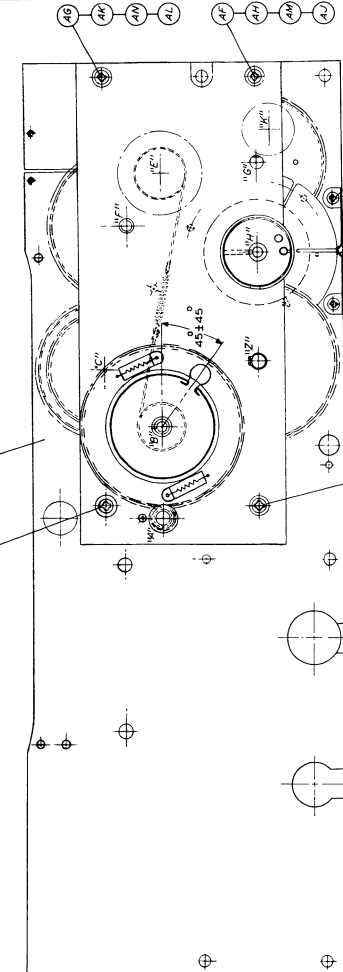

Figure 5-4. 51J-4 Dial and Bandswitch Gear Box
(1) Turn shaft G (BAND CHANGE) clockwise to the stop below band 1. Turn shaft A counterclockwise to the stop.
(2) Scribe a mark across the 85-tooth spider gear that carries the planetary gears, and across the 90-tooth stop-pin gear, using the top of the front gear panel as a guide.
(3) Scribe a radial mark, precisely under the Geneva wheel detent, on the 144-tooth gear that has two stop pins attached.
(4) Using the circumference of the Geneva wheel as a guide, scribe a mark on the 85-tooth gear that drives the Geneva wheel.
(5) Scribe a mark through the edge of the small dial cord pulley and the front gear panel.
(6) Remove pin from hub of large dial cord pulley.
(7) Remove large dial cord pulley and gear.
(8) Remove small dial cord pulley.
(9) Remove retaining ring from shaft I (shown as shaft Z in the front view of gear plate in figure 5-4).
(10) Using a pair of right angle TRUARC pliers or two bent (right angle) scribes, remove retaining ring from shaft F.
(11) Measure and record the length of loading spring using a pair of dividers.
(12) Remove four mounting screws from front gear panel.
(13) Remove front gear panel, being very careful not to let shafts ride up with plate. While removing this panel, do not allow gears to unmesh or rotate.
(14) Keep shim washers with respective gears or shafts.
(15) Before moving or disengaging any gears other than the 90-tooth gear on shaft F, scribe a line through detent spring, 48-tooth detent gear, and rear gear panel, and another line through the 52-tooth gear on shaft E and rear gear panel.
(16) Mark all gears being removed in such a manner that they may be identified later for reassembly.
(17) If the overtravel coupler is removed, note that the disk and gear are detented. Do not lose detent ball.
(18) Make all necessary repairs. If any parts that have been scribed are to be replaced, be sure to scribe the new parts in exactly the same manner before placing them in the equipment. If the loading cord is to be replaced, form a small loop at one end of each of the two pieces to provide anchors for the spring. Push free ends of the cords through the proper pulley-holes. Knot the free ends after allowing for five inch lengths of cord between the loops and knots. Coat the knots with Duco cement.
(1) Shaft G should now be against the clockwise stop, and should detent when turned counterclockwise approximately 45°. The ball on shaft C will now detent shaft G every 180°.
(2) When shaft G is turned counterclockwise 7-1/2 revolutions, or 15 detent positions from the first detent position, the pin in the 144-tooth gear on shaft H (figure 5-4), and the radial pin on the overtravel disk rotate clockwise until the radial pin just touches or is about to touch the pin in the rear gear panel. Further rotation of shaft G causes the pin in the gear to leave the radial pin that was stopped by the pin in the rear gear panel. Thus the overtravel coupler output shaft, which drives r-f switches S101 through S107 (figure 4-2), rotates 300° for the first 16 detent positions of shaft G and remains at that setting for further counterclockwise rotation of shaft G.
(3) Shaft G should rotate 14 more detent positions or 7 revolutions from the sixteenth detent position, and should hit the counterclockwise stop approximately 45° past the thirtieth detent position. If the stop pins intersect before this, adjust them by changing phase relations of the gears at points 1, 2, and 3, shown in figure 5-4. Before deciding to change the relative positions of these gears, double check the conditions in steps (1), (2) and (3). If instructions in paragraphs 5.6.2. and 5.6.3. were followed precisely, operation of the BAND CHANGE
(r) Replace large dial cord pulley and gear assembly as follows: Turn shaft A to counterclockwise stop. Make sure that the 52-tooth gear on shaft E and the 48-tooth detent gear on shaft C are still set at their respective scribe marks. Place pulley and gear assembly far enough on shaft B to engage the rear section of the split gear with the 15-tooth gear on shaft A. Be sure the groove-pin holes on shaft and hub are lined up and that the pulley slot is within 45° of the position shown in figure 5-4. Rotate front section of split gear so that springs stretch to $3/4$ inches. Engage front section with 15-tooth gear on shaft A. Replace groove pin and tighten set screw.